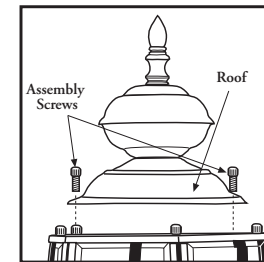

Figure 1
- For two screw and multiple screw assembly roofs, remove assembly screws on roof (or underneath roof) and insert bulb(s). Reattach roof (see figure 1 and 2).